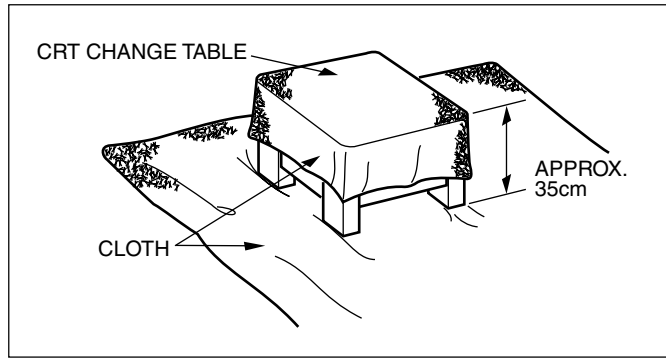

Fig. 2
- 1. Putting the CRT change table on soft cloth, the CRT change table should also be covered with such soft cloth (shown in Fig.2).